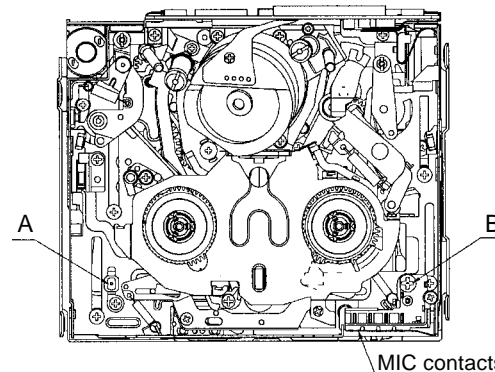

Fig. 2
(1) Remove the cassette controller assembly (refer to 8-2).
(2) Referring to 8-1, apply DC3V to the loading motor and put the system into playback mode.
(3) Taking adequate care so that the master plane does not contact drum, running parts (guide roller, etc.), or the MIC contacts. Fit the master plane holes to the 2 guides (A and B) in Fig. 2.